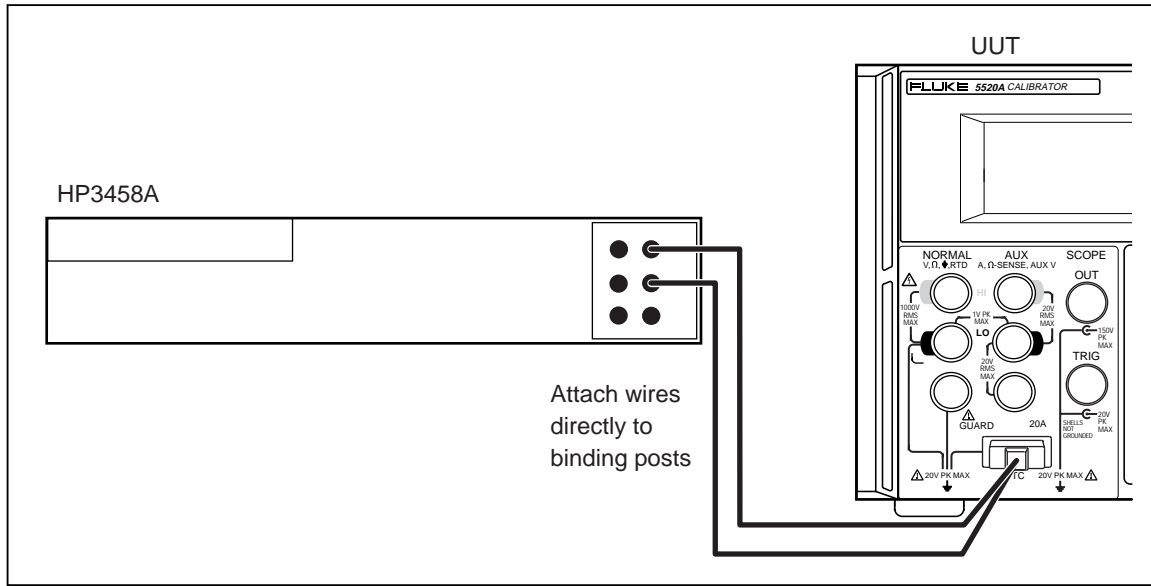

Figure 3-4. Connections for Calibrating Thermocouple Sourcing
3. Connect the HP3458A DMM to the TC terminals using solid copper telephone wire and a copper (uncompensated) TC miniplug as shown in Figure 3-4. Attach the wires directly to the DMM binding posts. Set the DMM to read dc millivolts.